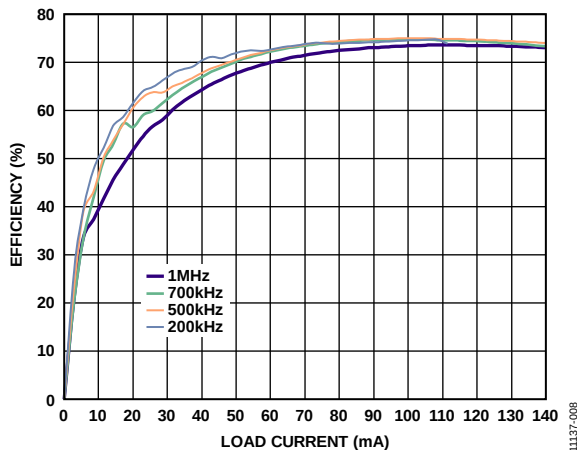
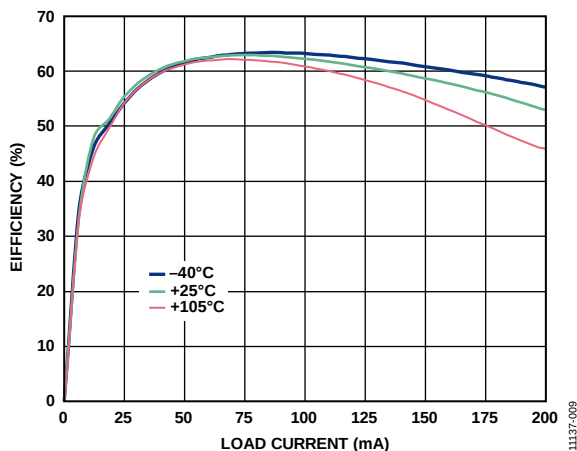
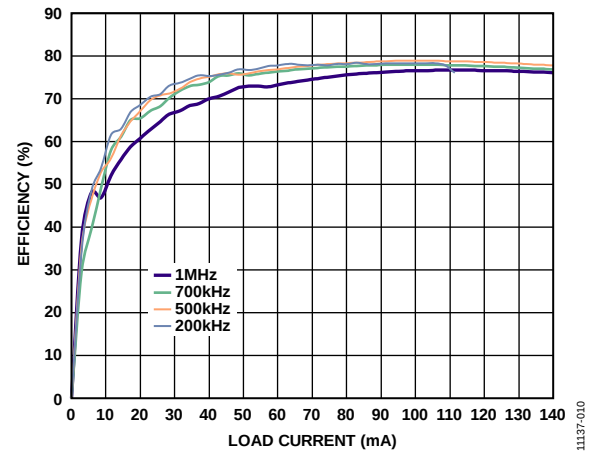
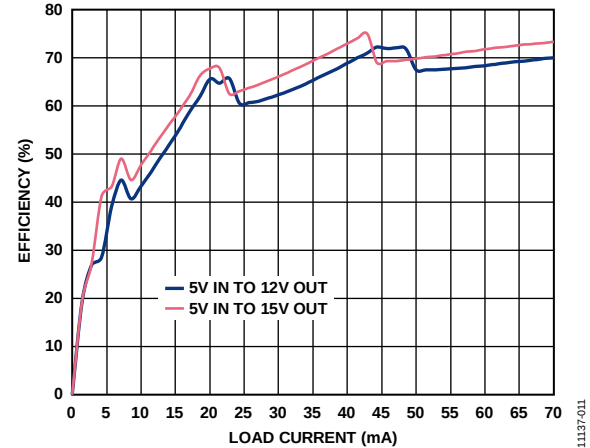

Figure 8. 5 V Input to 15 V Output Efficiency Using a 1CT:3CT Coilcraft Transformer (CR7983-CL) at Various Switching Frequencies
Figure 9. 5 V Input to 15 V Output Efficiency Using a 1CT:3CT Coilcraft Transformer (CR7983-CL) at 500 kHz and Various Temperatures
Figure 10. 5 V Input to 15 V Output Efficiency Using a 1CT:3CT Halo Electronics Transformer (TGRAD-560V8LF) at Various Switching Frequencies
Figure 11. Double-Supply Efficiency for Various Output Configurations Using a 1CT:5CT Coilcraft Transformer (CR7983-CL) at 500 kHz
Side 2 is powered by the secondary isolated 15 V supply. The ADuM4471 internal low dropout regulator converts this voltage to 5 V. The regulated 5 V supply powers the ADuM4471 secondary side. Therefore, the ADuM4471 V_{REG} pin is 15 V, and the V_{DD2} pin is 5 V. The 15 V supply connects to P7 (labeled OUT1). The 7.5 V supply connects to P9 (labeled OUT2). The Side 2 ground reference is tied to P10. See the ADuM4470/ADuM4471/ADuM4472/ADuM4473/ADuM4474 data sheet for an explanation of the double-supply theory of operation. Figure 8 through Figure 11 show efficiency curves for the double supply with the 15 V or 12 V isolated output supply connected to V_{REG} .
The EVAL-ADuM4471EBZ supports multiple transformer options. In the double-supply configuration, the board must be equipped with a Halo Electronics TGRAD-560V8LF (T2) or a Coilcraft CR7983-CL (T3) 1CT:3CT turns ratio transformer (see the ADuM4470/ADuM4471/ADuM4472/ADuM4473/ADuM4474 data sheet for details on transformer selection with the ADuM4471). Figure 8 and Figure 10 show the efficiency of the supply using a 1CT:3CT Coilcraft transformer (CR7983-CL) and a 1CT:3CT Halo Electronics transformer (TGRAD-560V8LF), respectively, at various switching frequencies. Figure 9 shows how temperature affects efficiency.
The user can select a different switching frequency by removing R12 and R13 and then choosing R18 based on Figure 3. The board is configured for the 500 kHz setting by default. Figure 8 and Figure 10 show how the switching frequency affects the efficiency of the supply using a Coilcraft transformer (CR7983-CL) and a Halo Electronics transformer (TGRAD-560V8LF), respectively.
In the double-supply configuration, the EVAL-ADuM4471EBZ board can be configured to have 12 V regulated and 6 V unregulated secondary isolated supplies by short-circuiting R11 with a 0 Ω resistor for R10. The regulated supply voltage is set by the fraction of the supply that is fed back to the ADuM4471 via the voltage divider comprising R6, R11, R15, and R10. The voltage at the feedback pin (FB) is 1.25 V. With R10 open-circuited, the ADuM4471 feedback voltage is approximately 1.25 V if V_{ISO} is 15 V. When R10 is short-circuited, the feedback voltage is approximately 1.25 V if V_{ISO} is 12 V (see the ADuM4470/ADuM4471/ADuM4472/ADuM4473/ADuM4474 data sheet for more information about setting the secondary isolated output supply voltage). Figure 11 shows the efficiency curves for both output settings at 500 kHz using a Coilcraft transformer (CR7983-CL).